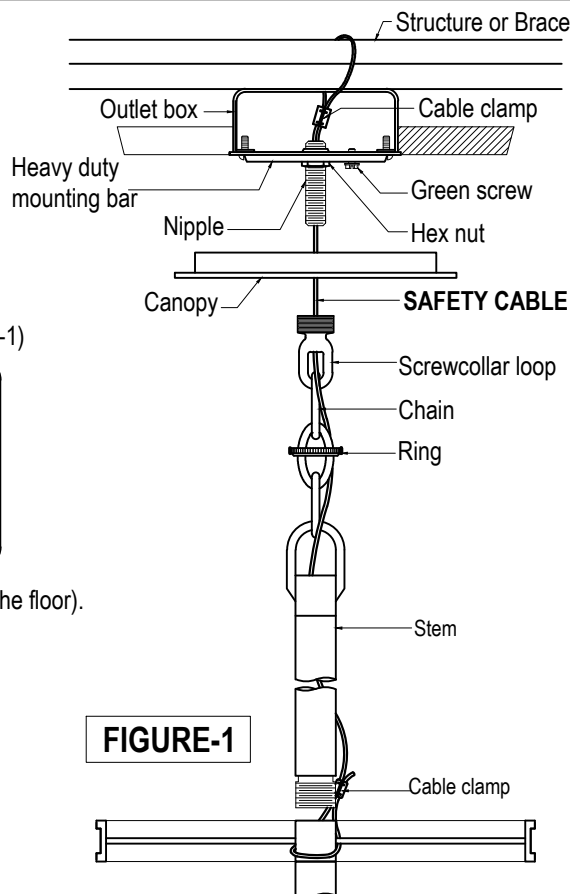

FIGURE-1
1. Attach the **SAFETY CABLE** to the building structure or brace (See figure-1)
10. Attach the **SAFETY CABLE** to the fixture (See figure-1).